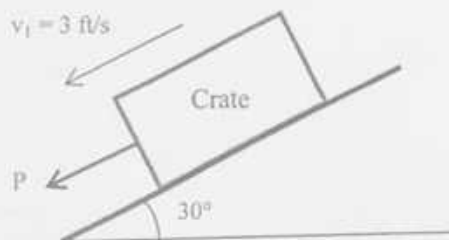

Figure 9
10. The 50 lb crate shown in Figure 9 is acted upon by a force having variable magnitude $P = (20t)$ lb, where t is in seconds. Determine the crate's velocity 2 s after P has been applied. The initial velocity is $v_i = 3$ ft/s down the plane, and the coefficient of kinetic friction between the crate and the plane is 0.3.